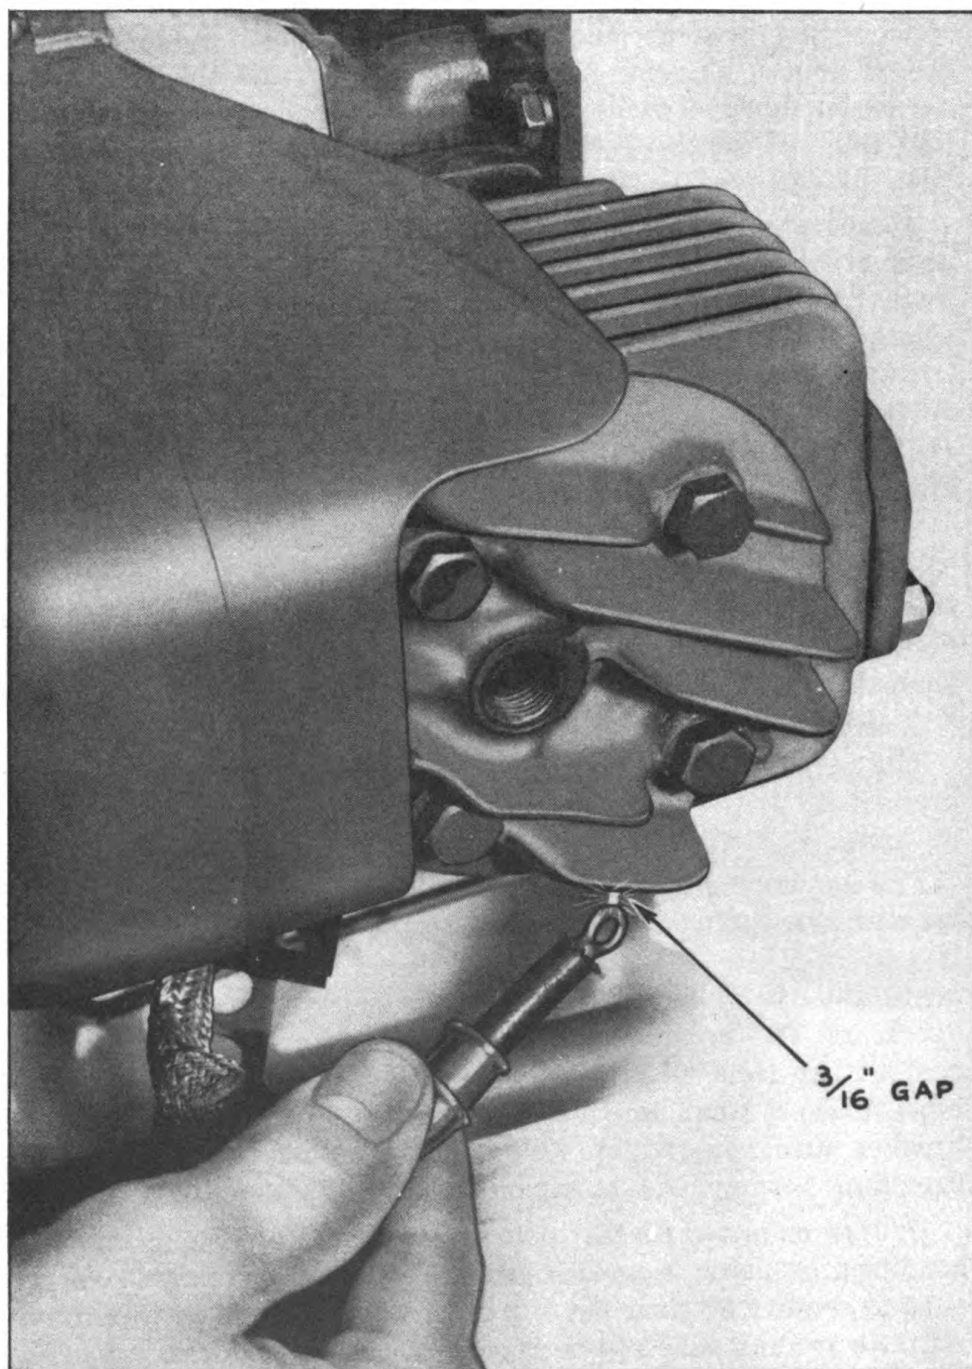

FIG. 10—TEST FOR SPARK OUTPUT
b. *Magneto.*—It is recommended, if there is an indication the magneto is causing trouble, that a test be made before attempting to repair it. If the engine refuses to start after it is determined the spark plug is all right, check magneto by holding high tension wire (25) $\frac{3}{16}$ " away from a point on the engine (See Fig. 10, Page 21). When the engine is cranked in the usual manner, a properly performing magneto will have a spark output strong enough to jump the prescribed gap.